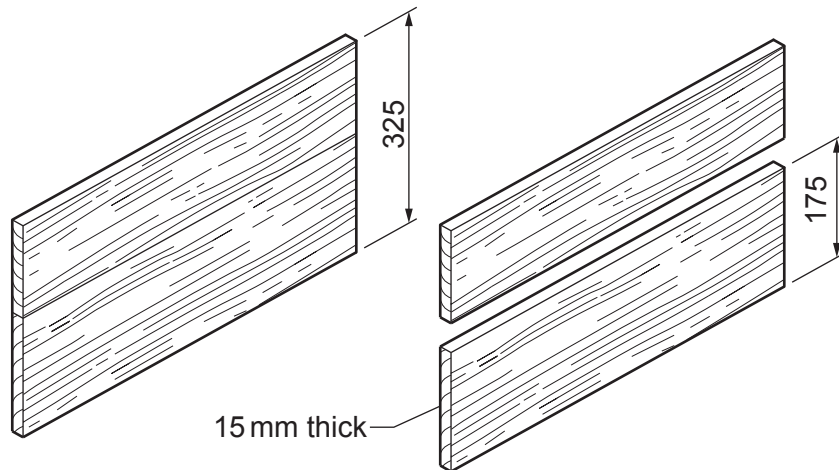

Fig. 11.2
- (b) Fig. 11.2 shows part of one of the hinged sides which is made by gluing together two softwood boards.